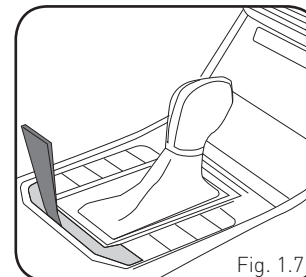

Fig. 1.7
9. Using a small panel tool, remove the trim panel located at the base of the shifter. (Fig. 1.7)